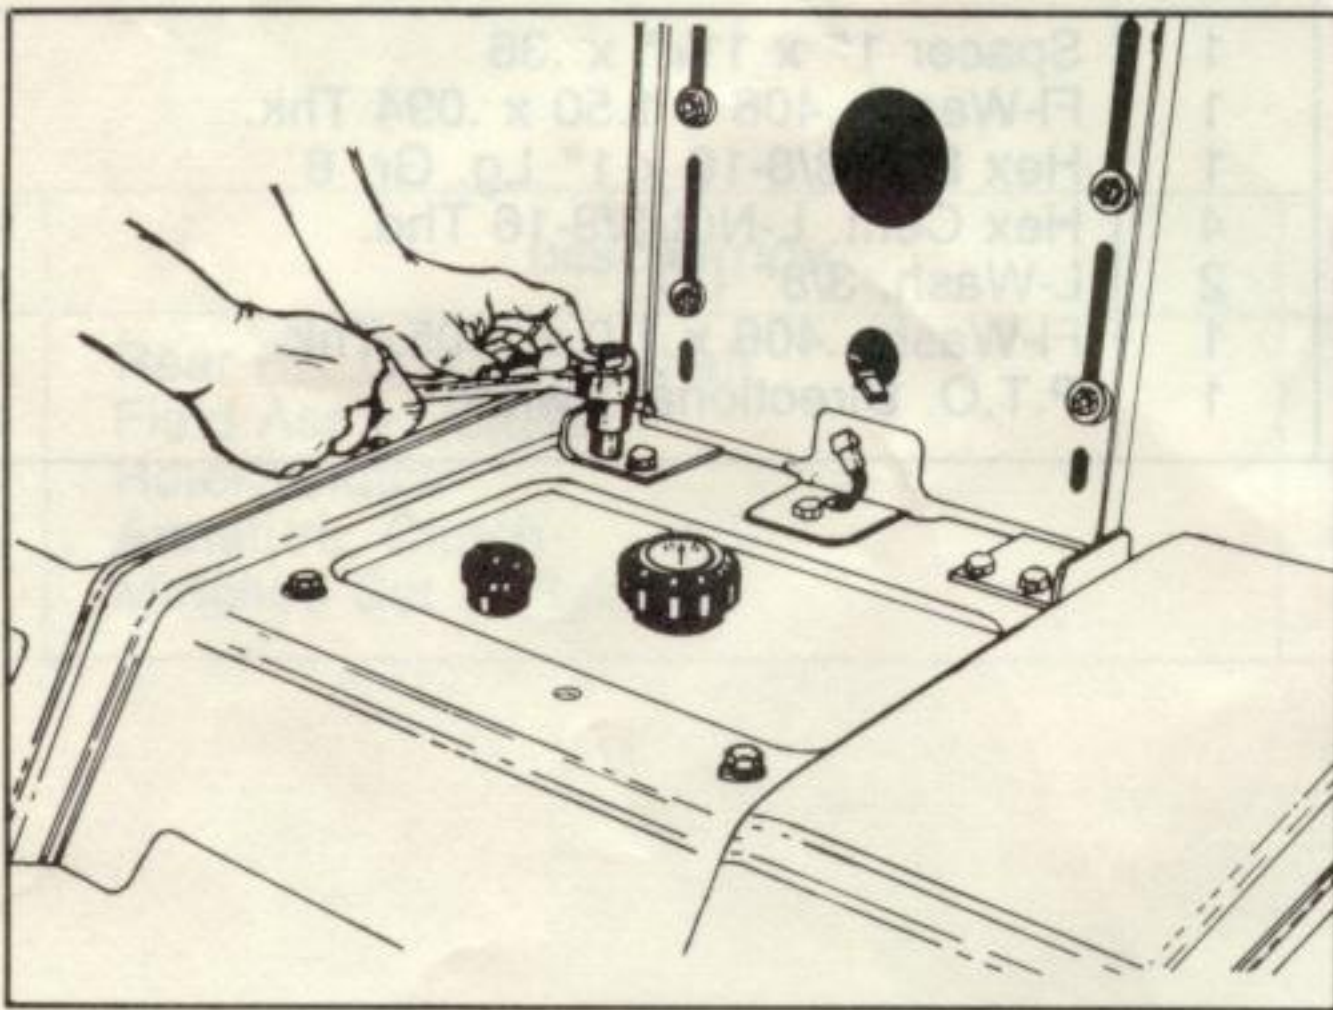

FIGURE 2.
3. Remove the four bolts holding the seat and seat bracket to fender assembly. See figure 2. Model 1572 shown.